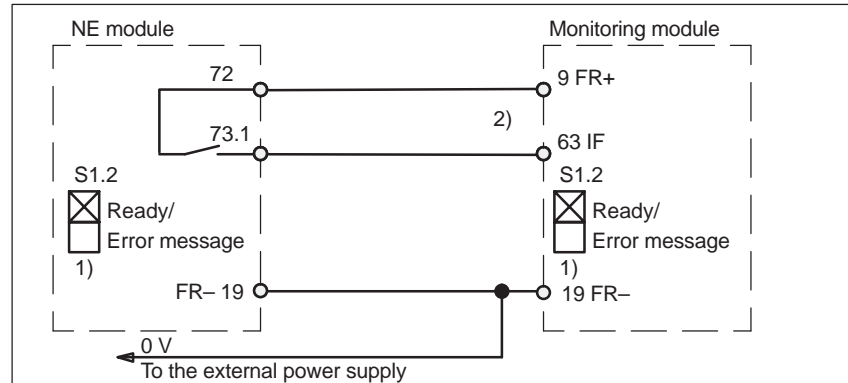

Fig. 8-5 Instantaneous shutdown, pulse enable
- Instantaneous shutdown, pulse enable → refer to Fig. 8-5